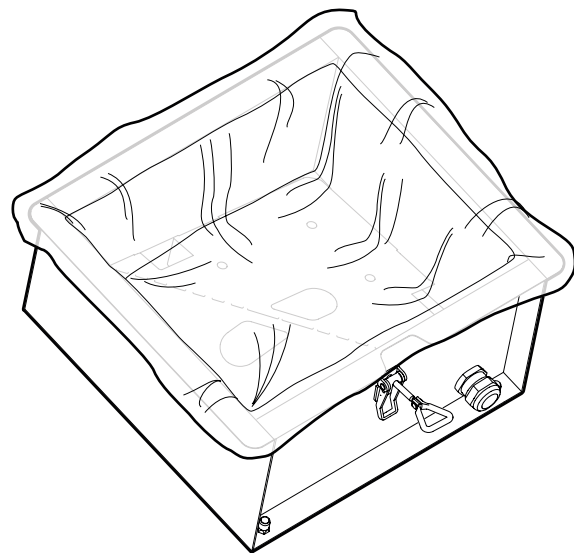

Fig. 28
6. Place a new Dust Bag CMF PSW3 correctly into the dust collector, see **Fig. 28**.